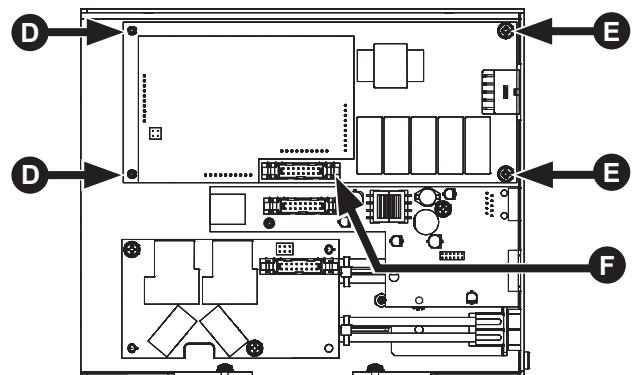

Fig. 2-25, SAG Card Standoffs, Screws and Ribbon Cable Locations
4. Install the SAG card by pressing it firmly onto the two standoffs (D) and fastening the two 6-32 screws (E) (see Fig. 2-25).
5. Connect the ribbon cable (F) and ensure the locking clips are closed.